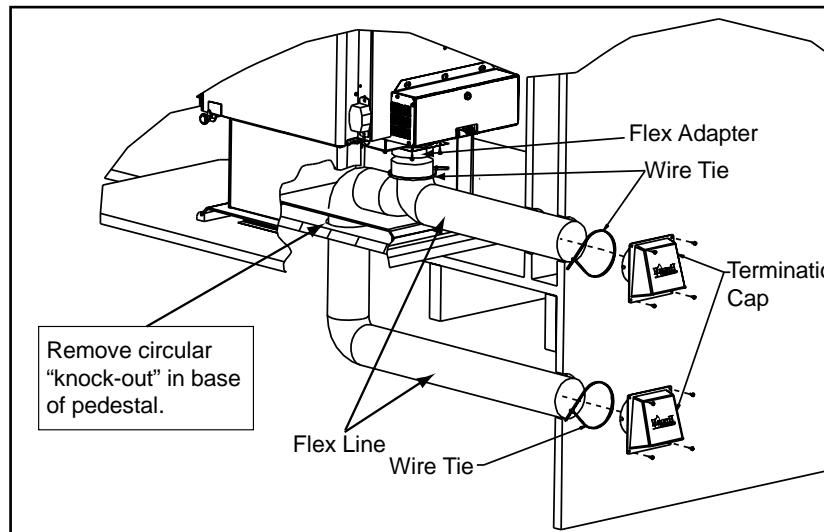
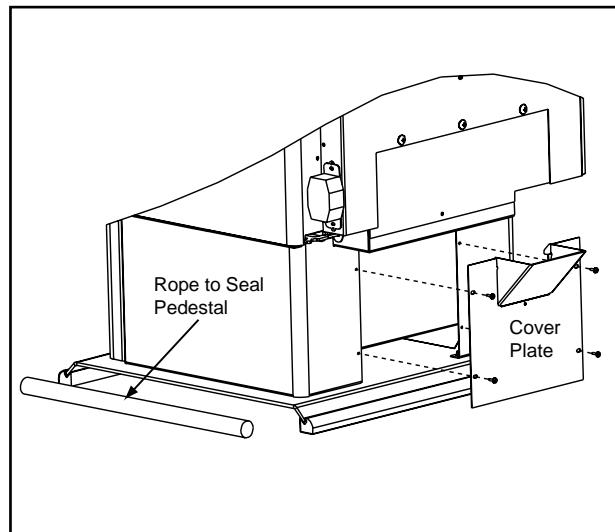

Figure 14.1 - Floor & Rear Installation
Figure 14.2 - Floor Installation Alternative
Included in SRV7033-041: Cover plate and sealing rope (see Floor Installation Alternative below, **Figure 14.2**)
2. Using a #2 Phillips screw driver attach the flex adapter to the stove using 4 screws. **Figure 14.1**
5. **Floor Installation Alternative:** In some instances you may not be able to install the flex pipe as shown in **Figure 14.1**. If that is the case, you will need to order SRV7033-041 which includes a cover plate and sealing rope as shown in **Figure 14.2**. The goal is to seal the pedestal so no room air can leak into the pedestal.